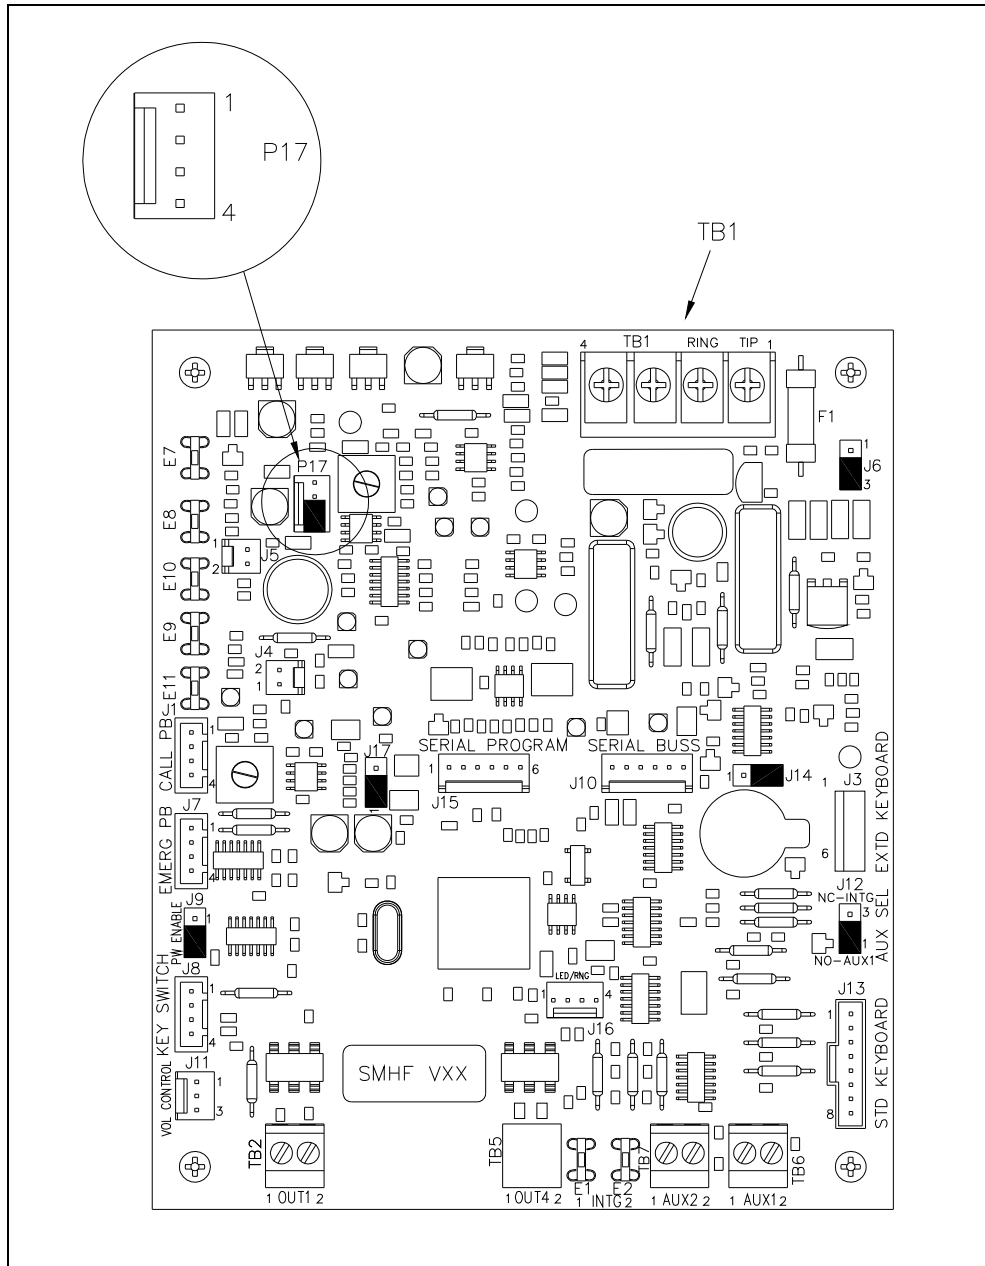

Figure 1. Jumper and terminal block locations on telephone PCBA No. 69411-101 used in 200 Series Emergency Phones
2. Disconnect the telephone line from TB1, labeled TIP and RING. Refer to Figure 1 on page 2.